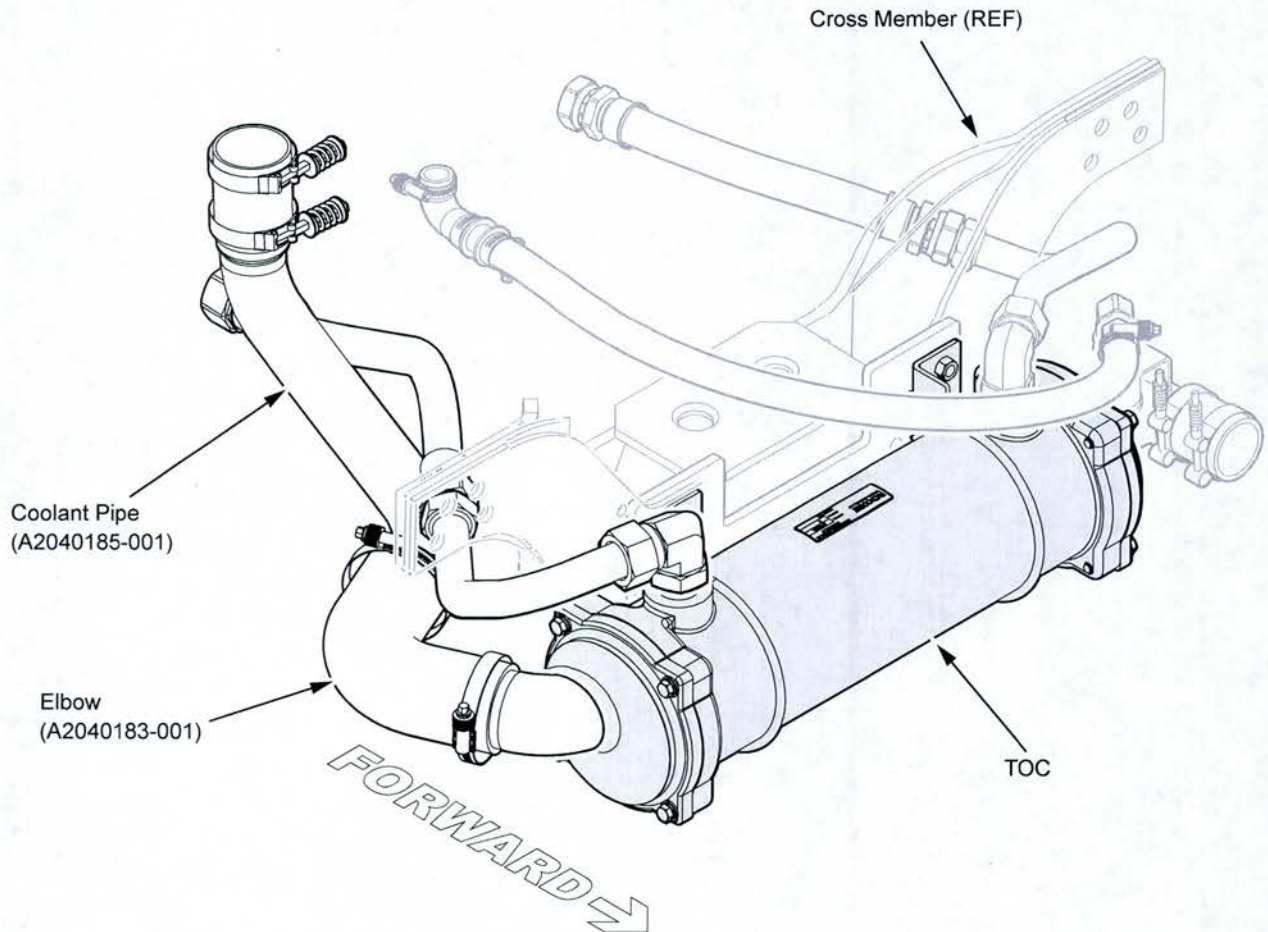

**Figure 11**
19. On the LH side of the TOC, install the hose (02-7118457) and 2 hose clamps (see Figure 11).